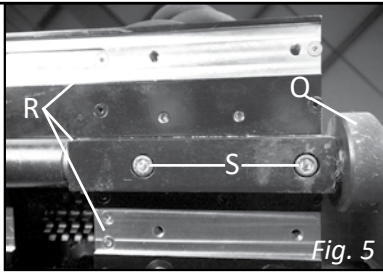

Fig. 5
- A. Lift machine and verify the wheel holders holding the Guide Wheels (*Q*, Fig. 5) are attached in the correct Guide Wheel Tracks (*R*) for the diameter of pipe to be cut.